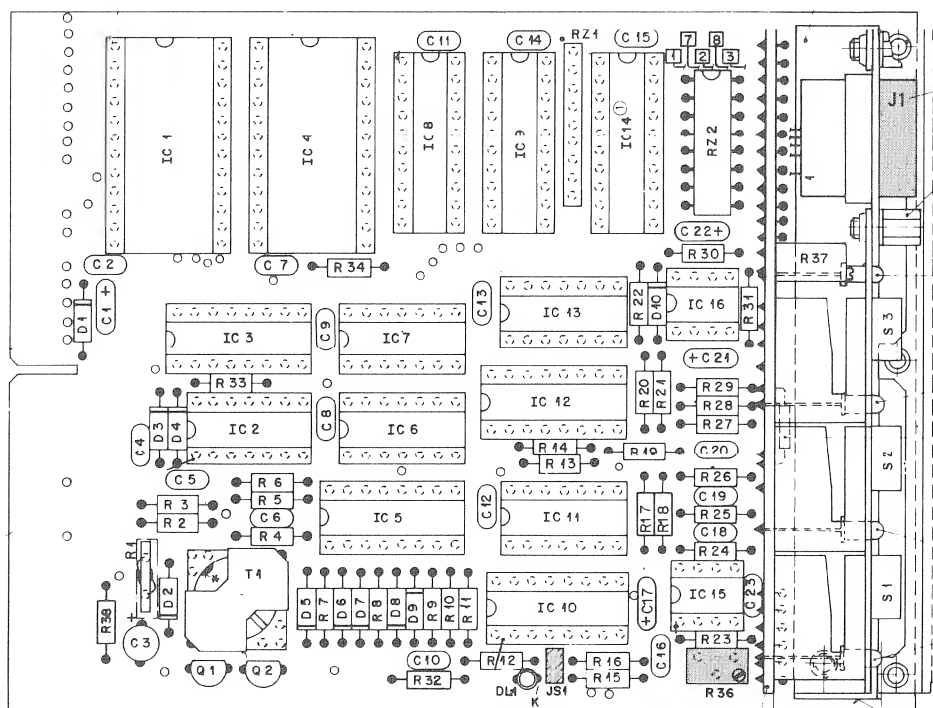

Fig. 4.8.6
- Set the jumpers according to figure 4.8.6.